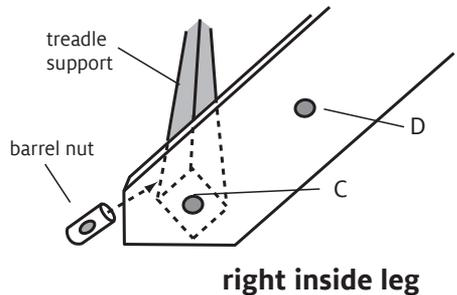

FIGURE 4: INSIDE LEG
7. From the front of the loom, detach all tie-up cords. Remove the arrow peg under the brake release pedal and detach the brake cord. Remove the machine screws and the 1/4-20 barrel nuts holding the treadle support from the hole closest to the floor (Figure 4). Set aside the barrel nuts for Step 12. Spread the inside legs apart and remove the treadle support.
the inside of the leg through the bottom hole [C] (Figure 4, page 3), then through the hole with the threaded insert on the height extender block (3rd hole from the bottom). Secure firmly.
**13.** Finish attaching the height extender blocks by inserting a 1/4-20 x 1-3/4" Phillips truss head machine screw from the inner side of the leg through the top hole [D] (Figure 4, page 3) and the top hole of the height extender block. Secure the screw with a 1/4" washer and 1/4-20 lock nut. Repeat for the other inside leg.